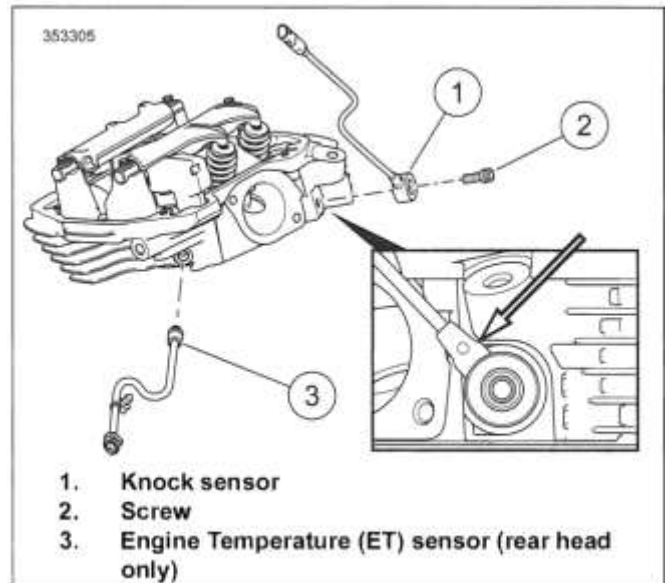

Figure 8-102. Cylinder Head Sensors
1. See Figure 8-102. Disconnect connector.
2. Remove sensor (3) from rear cylinder head.
1. See Figure 8-102. Install sensor (3). Tighten.